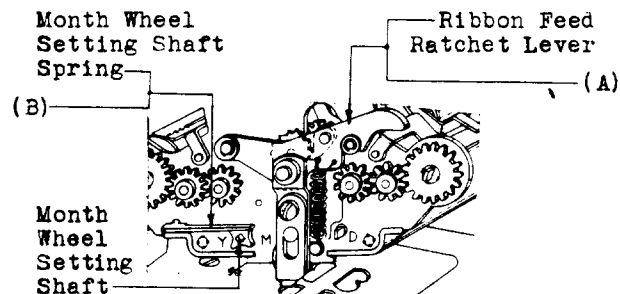

Fig. 6
2.11 Movement of Ribbon Spool - Fig. 6 (A) The ribbon feed ratchet lever shall advance the ribbon spool each time the printing head is operated and released. Gauge by eye.
2.16 Position of Month Wheel Setting Shaft Spring - Fig. 6 (B) - The month wheel setting shaft spring shall rest firmly against the month wheel setting shaft. Gauge by eye.